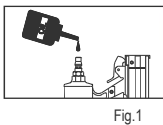

Fig.1
1. Add a few drops of UNOCAL RX22 or 3-in-1 oil into the air inlet. (See Fig. 1)